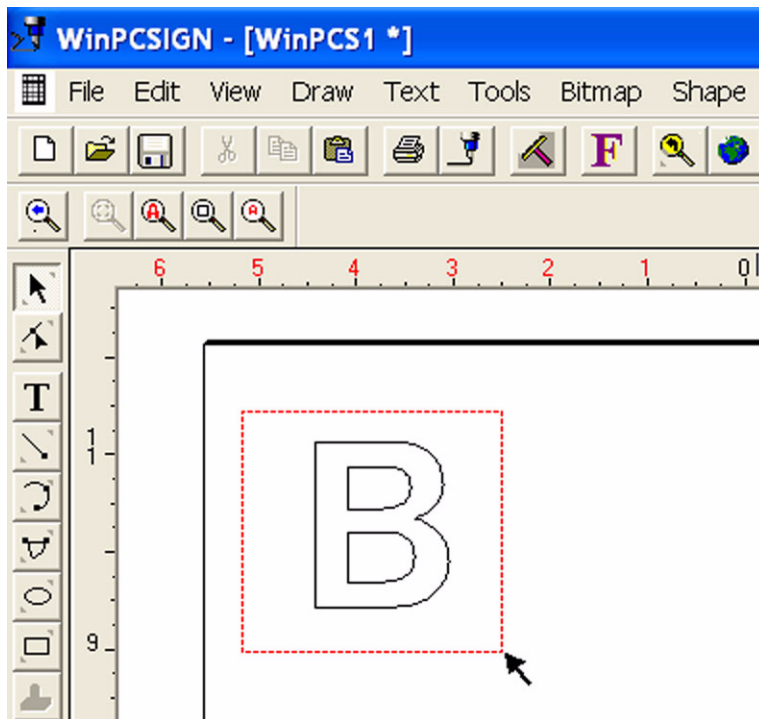

Figure 125
With the **Select Elements** tool selected, click the item(s) you want to resize, move, or change. See figure 125.
- To work with a group of elements, drag a box around a group. See figure 125.